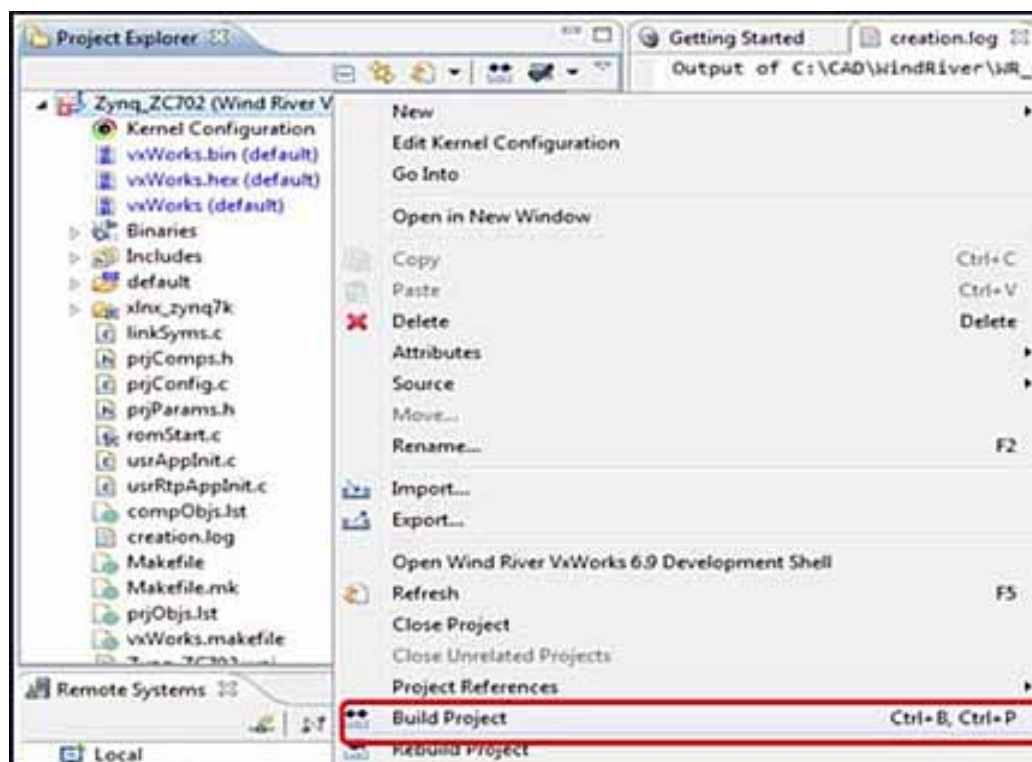

Figure 8: Build Project Option
1. In the Project Explorer window, mouse over to the Image project, right-click and select **Build Project**. The VxWorks image file is located in the `.\<project_name>\default` directory. Figure 8 shows the Build Project option.